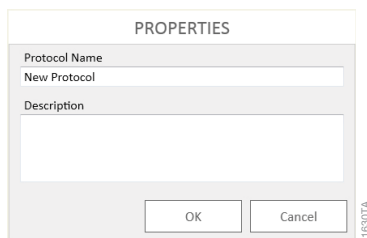

Figure 18. New Protocol name prompt from the GloMax® Explorer software.
2. You will be prompted to name the protocol. You also may provide a description, if desired (Figure 18).